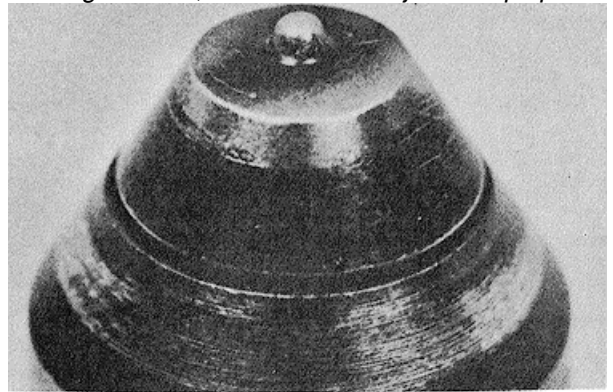

Fig. 6-1-18, F60223. Cup tip damaged by wire brushing
- a. Abrasive wear. This wear can begin internally, therefore, inspect both interior and exterior. Fig. 6-1-18.